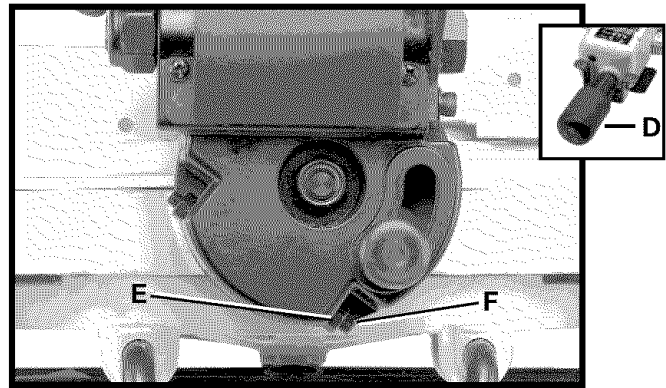

Fig. 26
8. If an adjustment is necessary, push in lock handle (D) Fig 26, and turn counter-clockwise. Loosen lockknob (E) Fig. 26, and use a 3mm hex wrench to turn screw (F) until blade is 45 degrees to the table. Tighten lockknob (E). Tighten lock handle.